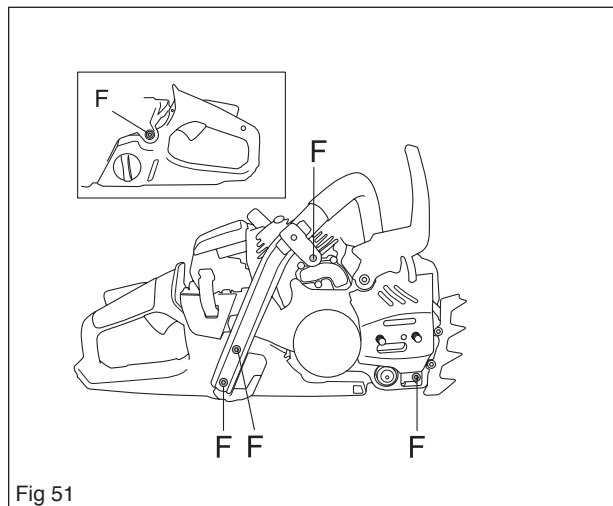

Fig 51
4. Loosen the screws F. See figure 51.
5. Tighten the screws F. See figure 51.